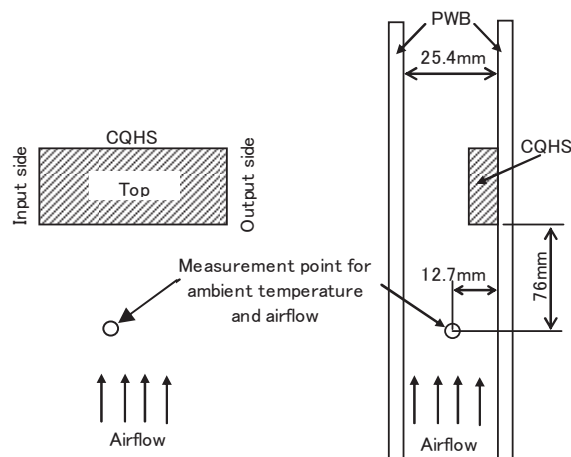

Fig1.1 Measuring method
- (1) Input :DC 36 - 76 [V]
(2) Output :Rated output
(3) Aluminum base plate temp. :75[°C] CQHS2504832-B (Fig1.1)
:80[°C] CQHS2504850-B (Fig1.1)